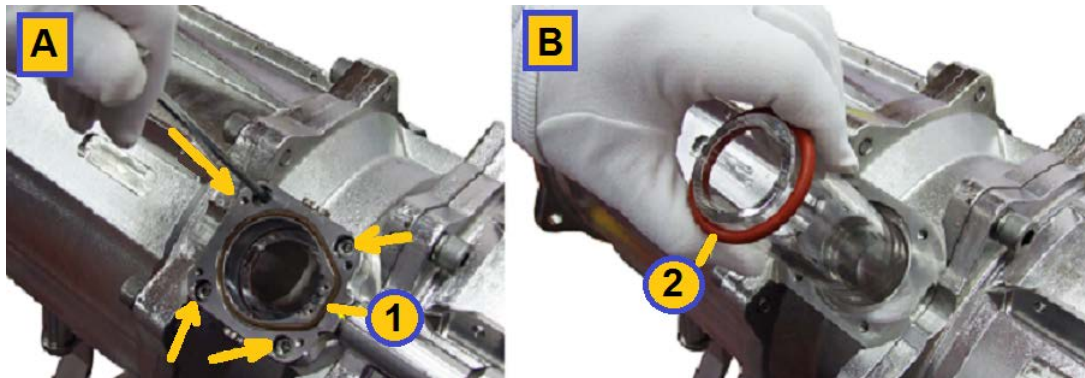

Figure 10-23: Replacing the Quartz Sleeve (Generic View 1)
- Two O-rings (See view **B** in Figure 10-23 below)
- Step 16.** Mount the new O-ring onto the quartz sleeve (as shown in view **B** in Figure 10-23 above) and insert the sleeve into the Unit. Make sure it is centered.